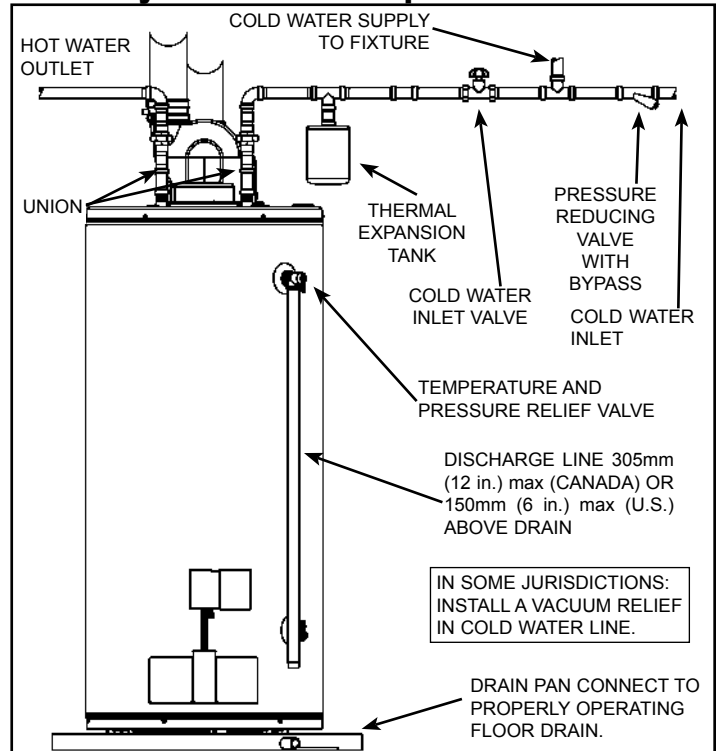

Figure 12. Water Piping Installation
Piping, fittings, and valves should be installed according to the installation drawing (Figure 12). A pressure-reducing valve and/or an expansion tank may be required for installations where the water pressure is high. The pressure-reducing valve should be located on the supply to the entire house in order to maintain equal hot and cold water pressure.
1. Install the water piping and fittings as shown in Figure 12. Connect the cold water supply to the fitting (3/4" NPT) marked "COLD" (or "C"). Connect the hot water supply to the fitting (3/4" NPT) marked "HOT" (or "H").